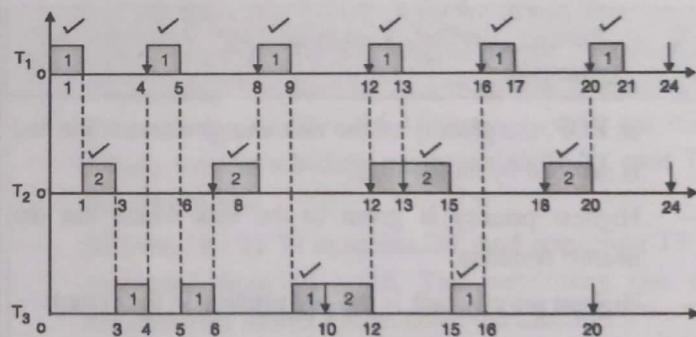

Fig. P. 1.2.3
- As shown in Fig. P. 1.2.3 we have time instance on Y-axis and tasks shown on X-axis.